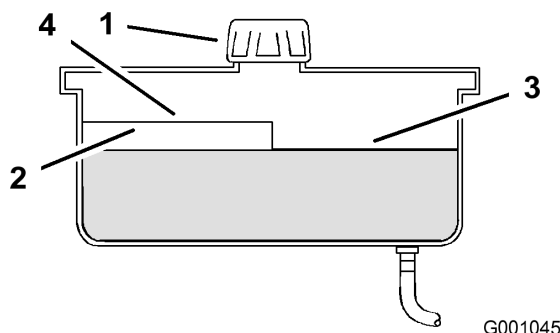

Figure 52
4. Clean area around cap and filler neck of hydraulic tank (Figure 52).
5. Remove cap from filler neck. Look inside to check if there is fluid in the reservoir. (Figure 52).
Note: The fluid level should be to the top of the hot level of the baffle, when the fluid is warm (Figure 52).